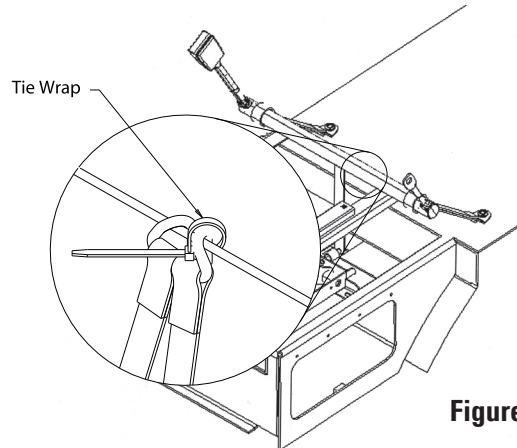

Figure 5
4. Connect hook into ICP cable as shown. **See FIGURE 5.**
5. Place two tie wraps (supplied) around hook and cable as shown in detail in **Figure 5** and pull tightly. The tie-wraps assures hook maintains engagement with the cable.